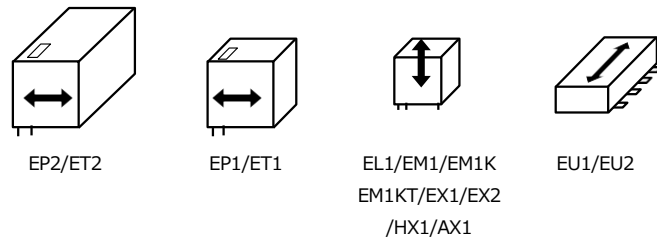

Figure 11 Direction of armature operation
(2) Relay mounting position
a) The vibration and shock resistance of a relay are greatly affected by its mounting position. It is particularly important to select the mounting position to prevent the break contacts from being momentary open instantaneously due to vibration and shock. The vibration and shock resistance are at a minimum when the direction of vibration and shock applied to the relay matches the operation direction of the armature (movable iron piece) and contacts. Therefore, if it is possible to anticipate the direction of vibration or shocks, mount the relay so that the direction in which vibration or shocks are applied is perpendicular to the direction of the relay armature operation. Figure 11 shows the direction of relay armature operation.